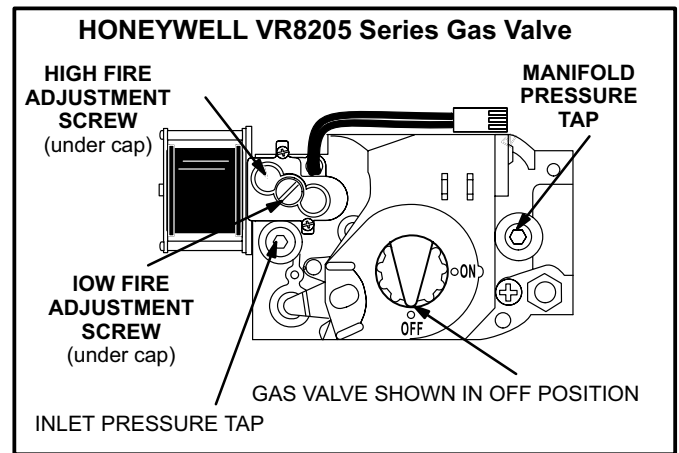

FIGURE 11
The G60UH(X) uses a two-stage gas valve manufactured by Honeywell (figure 11). The valve is internally redundant to assure safety shut-off. If the gas valve must be replaced, the same type valve must be used.
- 6 - *Honeywell VR8205 Gas Valve* - Turn knob on gas valve clockwise ➡ to **OFF**. Do not force. See figure 11.
8 - *Honeywell VR8205 Gas Valve* - Turn knob on gas valve counterclockwise ⬅ to **ON**. Do not force. See figure 11.
When testing supply gas pressure, connect test gauge to inlet pressure tap on the unit gas valve (GV1). See figure 11. Check gas line pressure with unit firing at maximum rate. Low pressure may result in erratic operation or underfire. High pressure can result in permanent damage to gas valve or overfire. See table 11 for operating pressure at unit gas connection (line).
- 1 - Connect a test gauge to manifold pressure tap on gas valve. See figure 11 for tap location. Start unit and allow 5 minutes for unit to reach steady state.